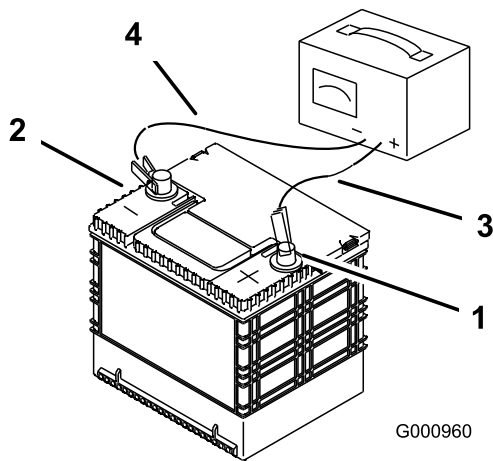

Figure 60
2. When the battery is fully charged, unplug the charger from the electrical outlet, then disconnect the charger leads from the battery posts (Figure 60).